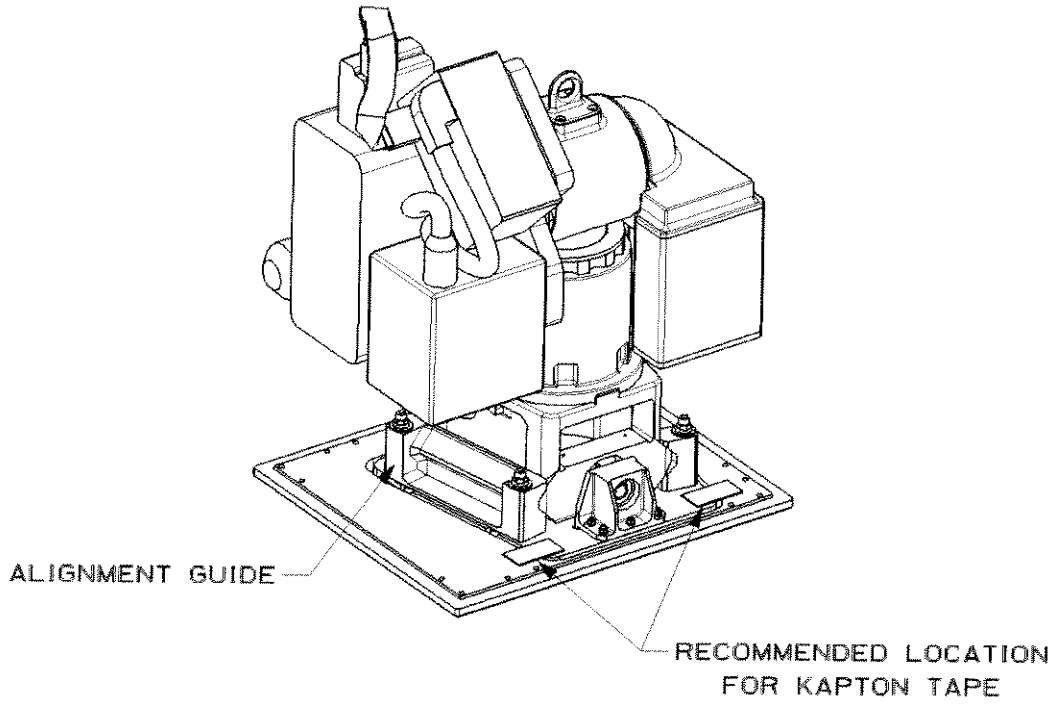

Figure 3
6. CLPA should slide freely from the base plate. It may be necessary to loosen four nuts on top of alignment guides (fig 3)